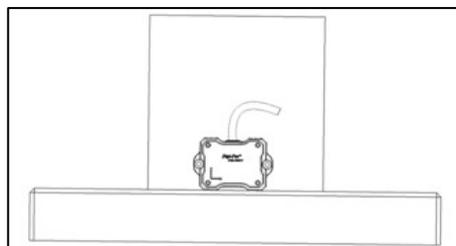
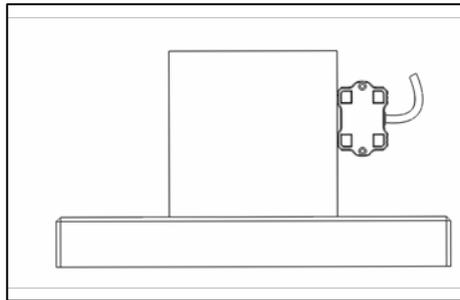

Figure 38. Tilt Sensor Module Position of Calibration Step 1
Figure 43. Tilt Sensor Module Position of Calibration Step 6
9. For **DWL5000XY** model, repeat step 6 to step 8 above until Calibration Step 8. Please locate the sensor module in following positions (refer to Figure 38 to Figure 43) respectively.